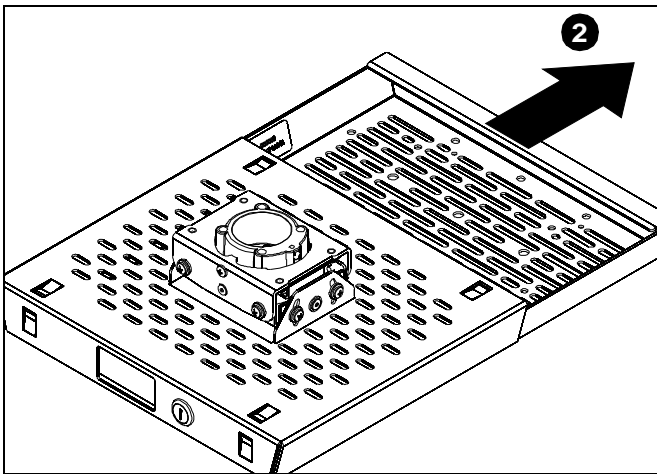

Figure 1
2. Remove drawer from MSP-CCS3 outer sleeve. (See Figure 1)